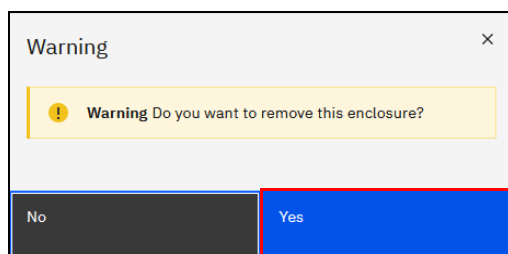

Figure 4-134 Confirming the removal
2. The system prompts you to remove the enclosure. All disk drives in the removed enclosure must be in the *Unused* state. Otherwise, the removal process fails (see Figure 4-134).